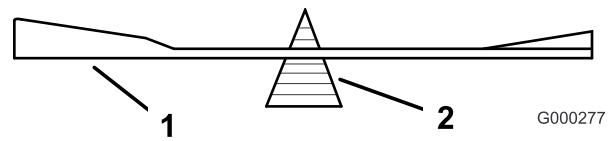
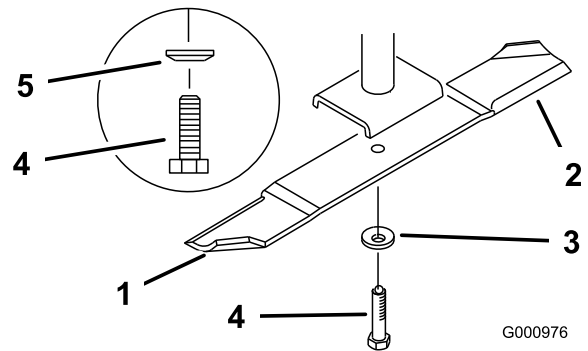

Figure 82
Figure 83
2. Remove the blade bolt, spring disk and blade from the spindle shaft (Figure 83).
2. Check the balance of the blade by putting it on a blade balancer (Figure 82). If the blade stays in a horizontal position, the blade is balanced and can be used. If the blade is not balanced, file some metal off the end of the sail area only (Figure 83). Repeat this procedure until the blade is balanced.
1. Install the blade onto the spindle shaft (Figure 83).
2. Install the spring disk and blade bolt. The spring disk cone must be installed toward the bolt head (Figure 83).